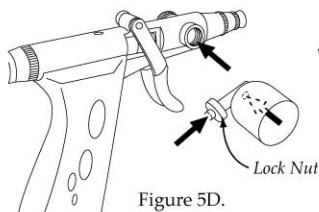

Figure 5D.
*Tritium.TS side cups* - Remove the paint cups and thoroughly clean the paint passageway through the cup. Remove and clean the lock nut and also the threads of the cup. Thoroughly clean the opening on the side of the airbrush. Refer to Figure 5D below.